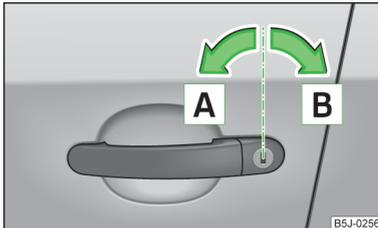

Fig. 31
- › Turn the key in the locking cylinder of the driver's door in the direction of travel (unlocking position) **A** » Fig. 31.
- › Turn the key in the locking cylinder of the driver's door opposite to the direction of travel (locking position) **B** » Fig. 31 on page 47.